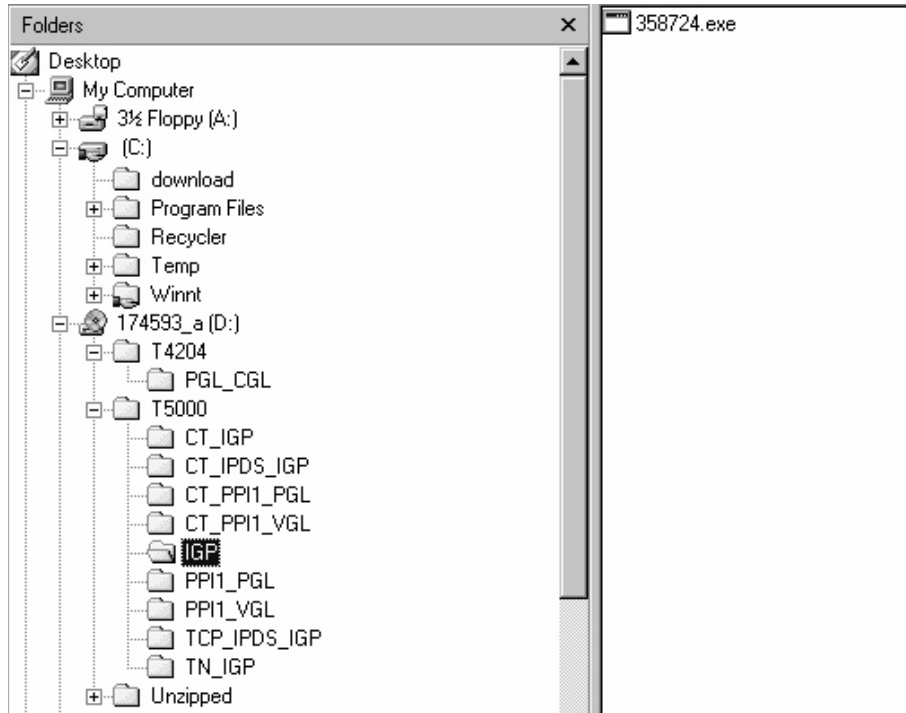

Figure 1. Navigating to the Appropriate Emulation File on the CD
- Using Windows Explorer, navigate to the appropriate file on the CD based on the printer model number and desired emulation, e.g., T5000 ▶ IGP. (See Figure 1.)